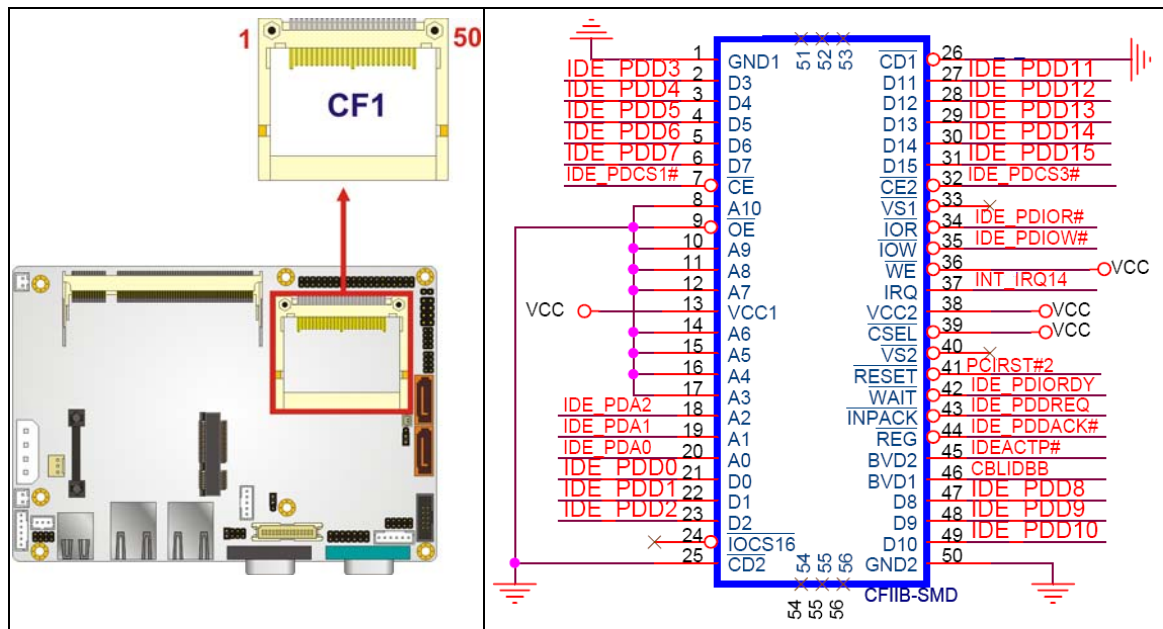

Figure 3-5: CF Card Socket Location
- CN Location:** See Figure 3-5